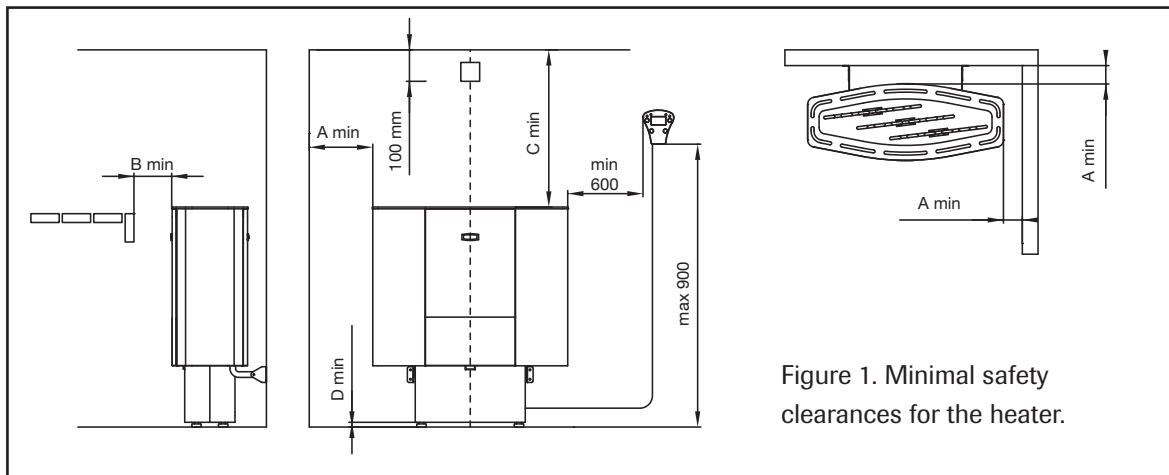

Figure 1. Minimal safety clearances for the heater.
**) See figure 1
- Install temperature sensor to the wall, above the sauna heater so it is located 100mm below the ceiling. (see Fig. 1)
- The installation height of the control unit is a maximum of 90 cm and a minimum of 60 cm from the side of the heater (see Fig. 1).